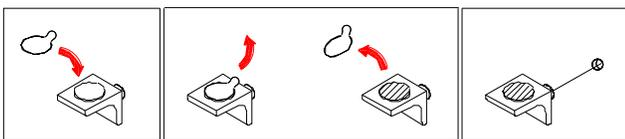

FIG 21
4. Place shelf clip stick tab on top of clear shelf clip (Fig 21), then peel off tab so only sticker remains on clip.